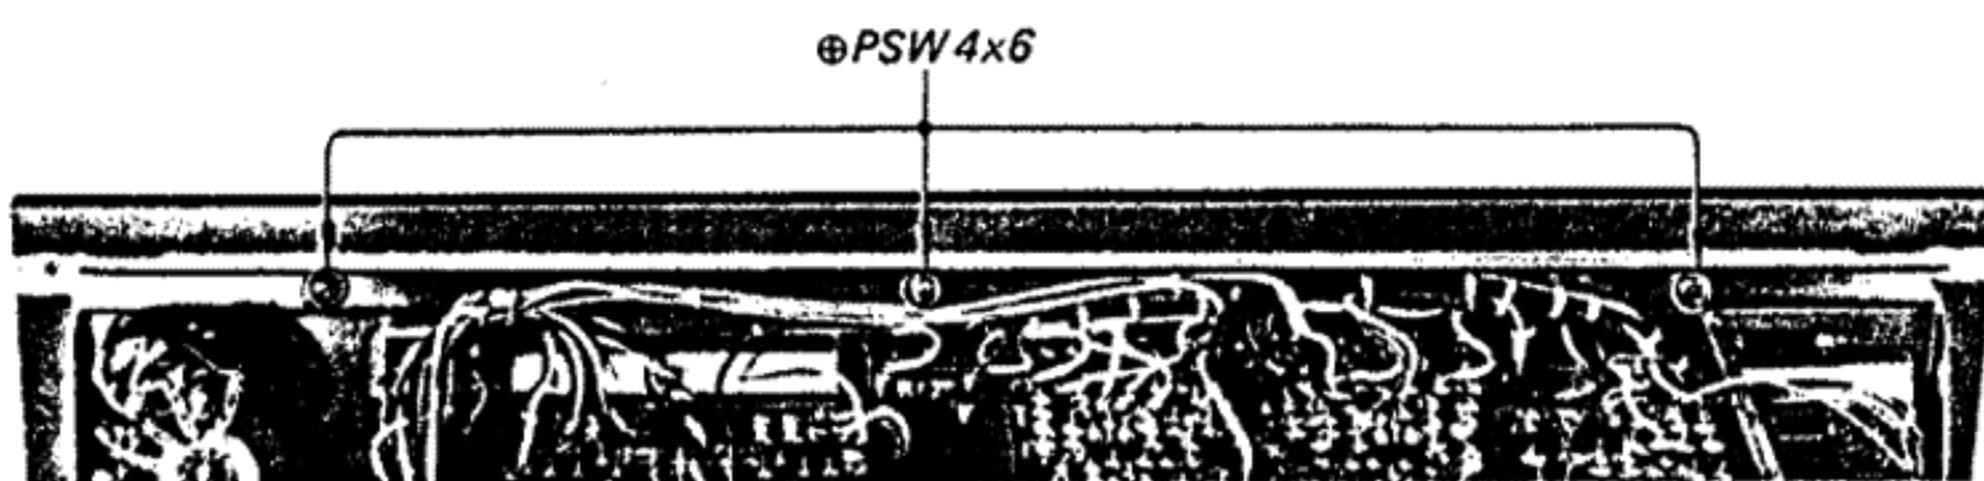

Fig. 2-2. Front panel removal
3. Remove the three screws (\oplus PSW 4x6) behind the top edge of the front subchassis as shown in Fig. 2-2.